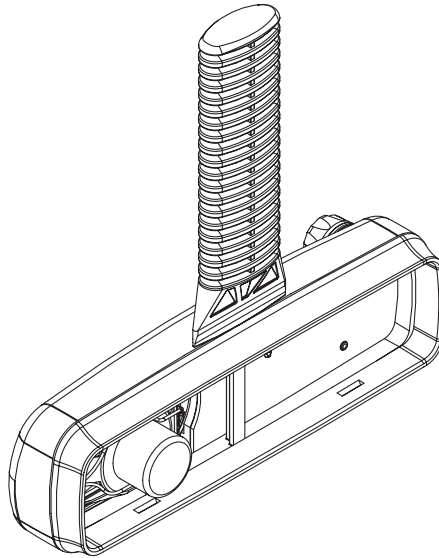

Figure 2-6: Control Head Back Housing Removal
1. To dismount the control head housing from the back housing, insert the dismantling tool in the groove between the two housings as shown in Figure 2-6.
1. Dismount the control head housing from the back housing as described for control head CDM750, Figure 2-6.